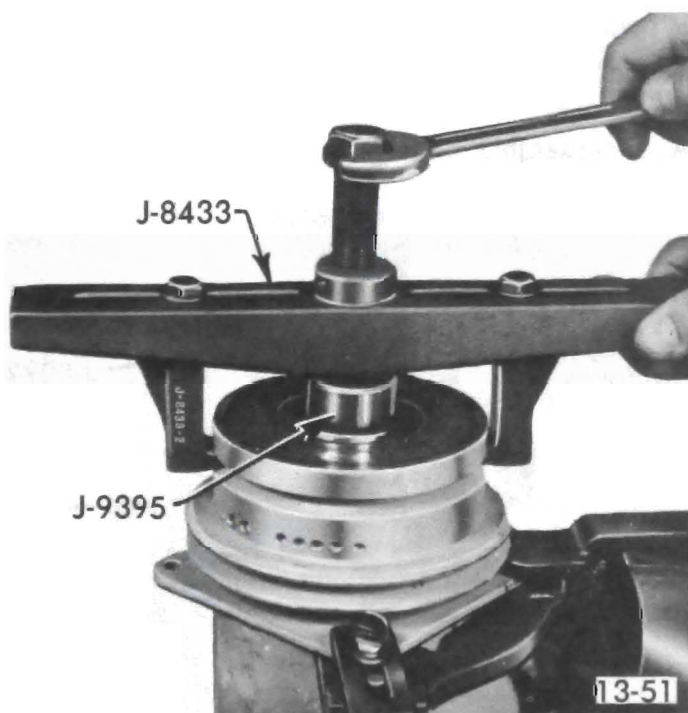

Figure 13-36 Removing Pulley Assembly
3. Place puller pilot (J-9395) on hub of front head and take off pulley assembly (see Figure 13-36), using pulley puller (J-8433).
3. Lock bearing in position with bearing to pulley retainer ring (see Figure 13-36).